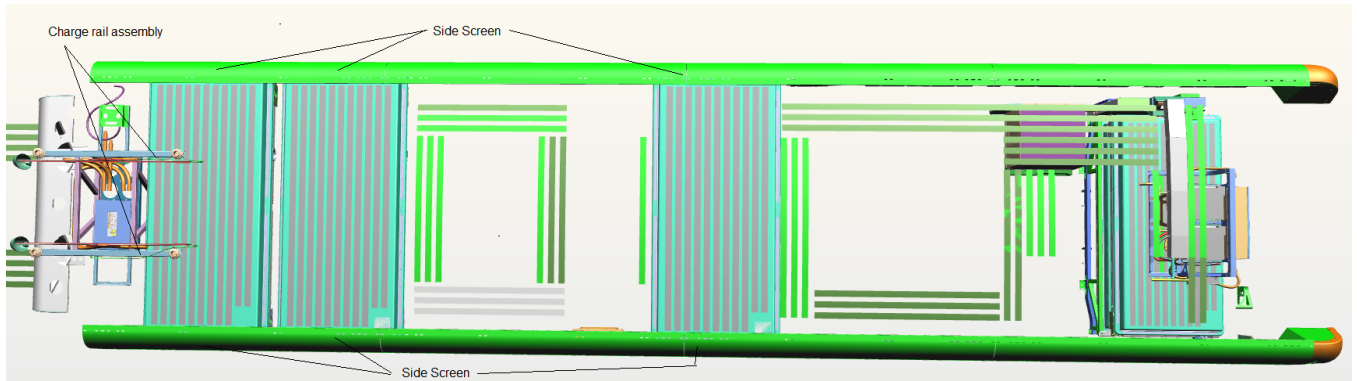

Figure 19: Typical 40-foot bus roof ESS location reference.
34. Remove streetside and curbside, side screens in the ESS area as needed. See figure 19 and 20.
NOTE: May be necessary to remove charger rail assemble on the 40-foot buses only to be able to remove the ESS lid. See figure 19.